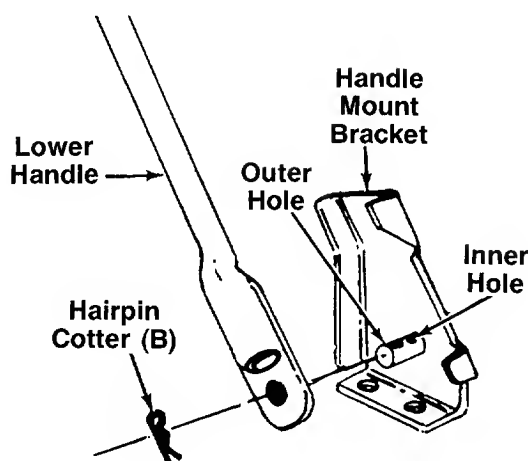

FIGURE 2.
- B (2) Hairpin Cotter
- C (2) Lock Washers 5/16" I.D.
- D (2) Hex Nuts 5/16-18 Thread
- E (1) Curved Head Carriage Bolt
- F (3) Cable Ties
- G (3) Cable Anchors
- H (1) Plastic Plug (May Be Already Assembled)
- I (1) Cable Clamp (Not Shown)
3. Attach the lower handle by placing the bottom holes in the lower handle over the weld pins on the handle mount brackets. Make certain the instruction label on the lower handle can be read from the operating position. Secure with hairpin cotter (B) in inner holes on weld pins. See figure 2.